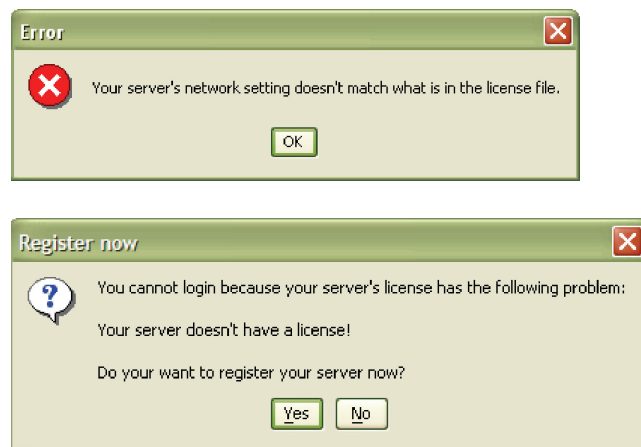

Fig. 31: Errors produced when the server needs a new license file after changing the IP address.
2. If either of the messages shown in Fig. 31 appears, the computer's settings do not match the settings specified in the current license file.